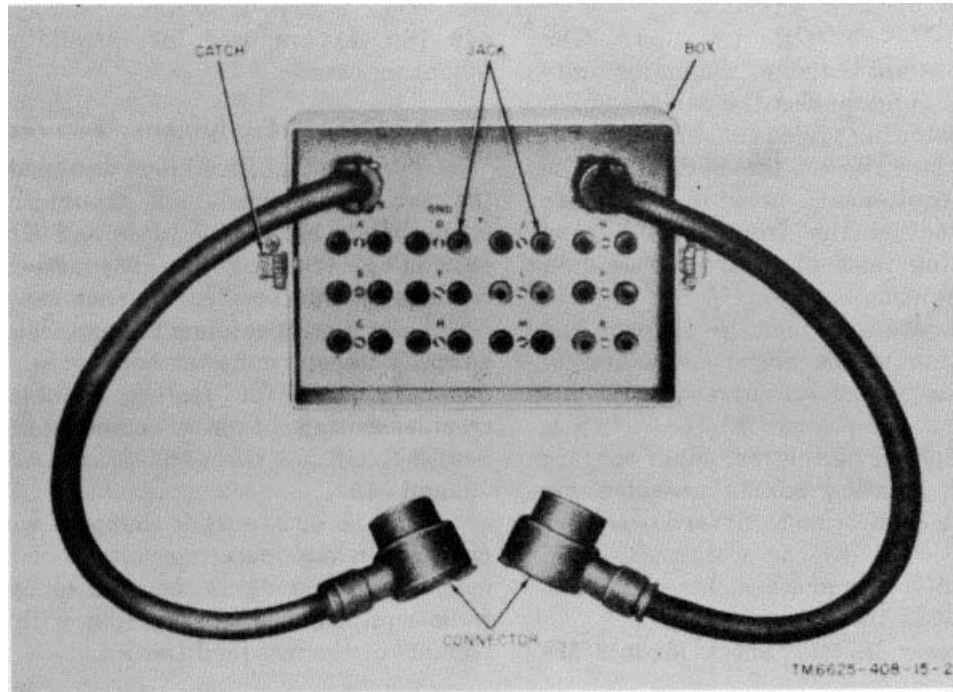
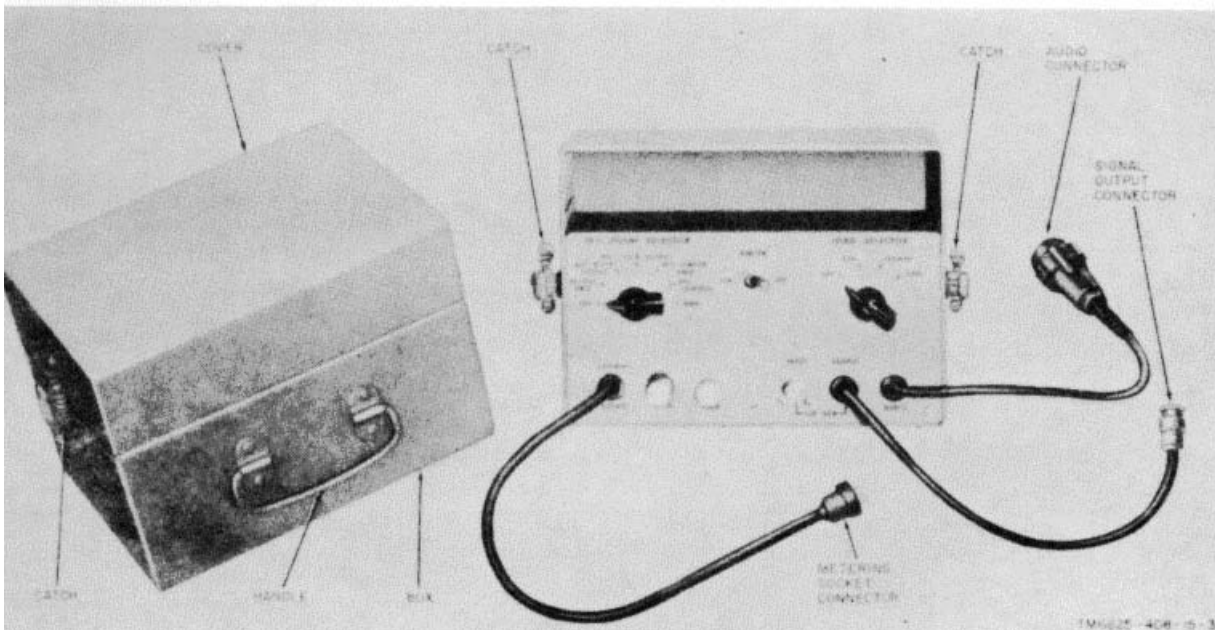

Figure 2. Adapter, Test MX-1566/GRC.
Figure 3. Adapter, Test MX-3553/GRC.
h. *Adapter, Test MX-1566/GRC* (fig. 2). The set 1 adapter is contained in a metal box with a cover (similar to that shown in fig. 3) that protects the panel and cable assembly of the adapter and fastens to the case with two spring catches. The adapter has two cable assemblies and 12 pairs of closed circuit jacks located on the panel. This adapter is connected between Power Supply PP-109/GR or PP112/GR (power supply) the RT-66/GRC,
i. Adapter, Test MX-355s/GRC (fig. 3). The PRC adapter is contained in a metal box with a cover. The
PRC adapter (fig. 3):
Set I adapter (fig. 2) cable	Connects to POWER IN receptacle of Receiver-Transmitter RT-66/GRC, RT-67/GRC, or RT-68/GRC and POWER OUT receptacle of Power Supply PP-109/GR or PP-112/GR.